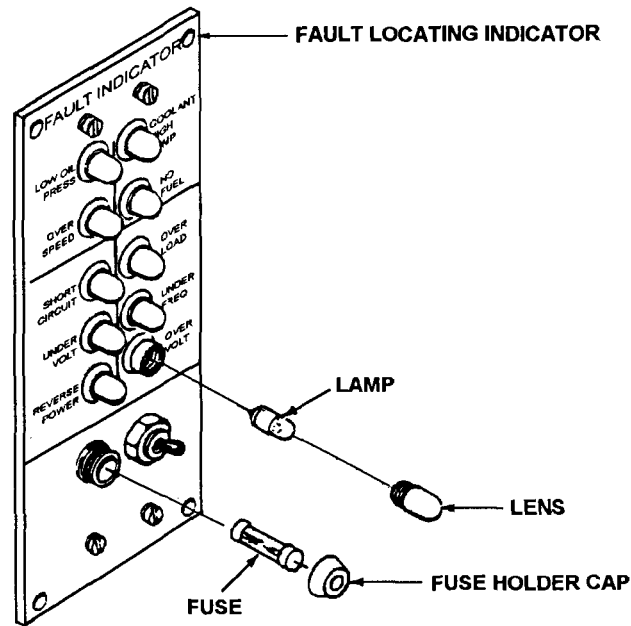

Figure 4-40. Fault Locating Indicator Lamp and Fuse Replacement
- (1) Unscrew lens (Figure 4-40) and remove lamp.
- (2) Visually inspect lamp for corrosion, cracked or broken glass, and burned filament.
- (1) Unscrew cap (Figure 4-40) and remove fuse.
- (2) Visually inspect fuse for corrosion, cracked or broken glass, and melted conductor.
- (3) Replace fuse if defective.
- (4) Install fuse and cap.